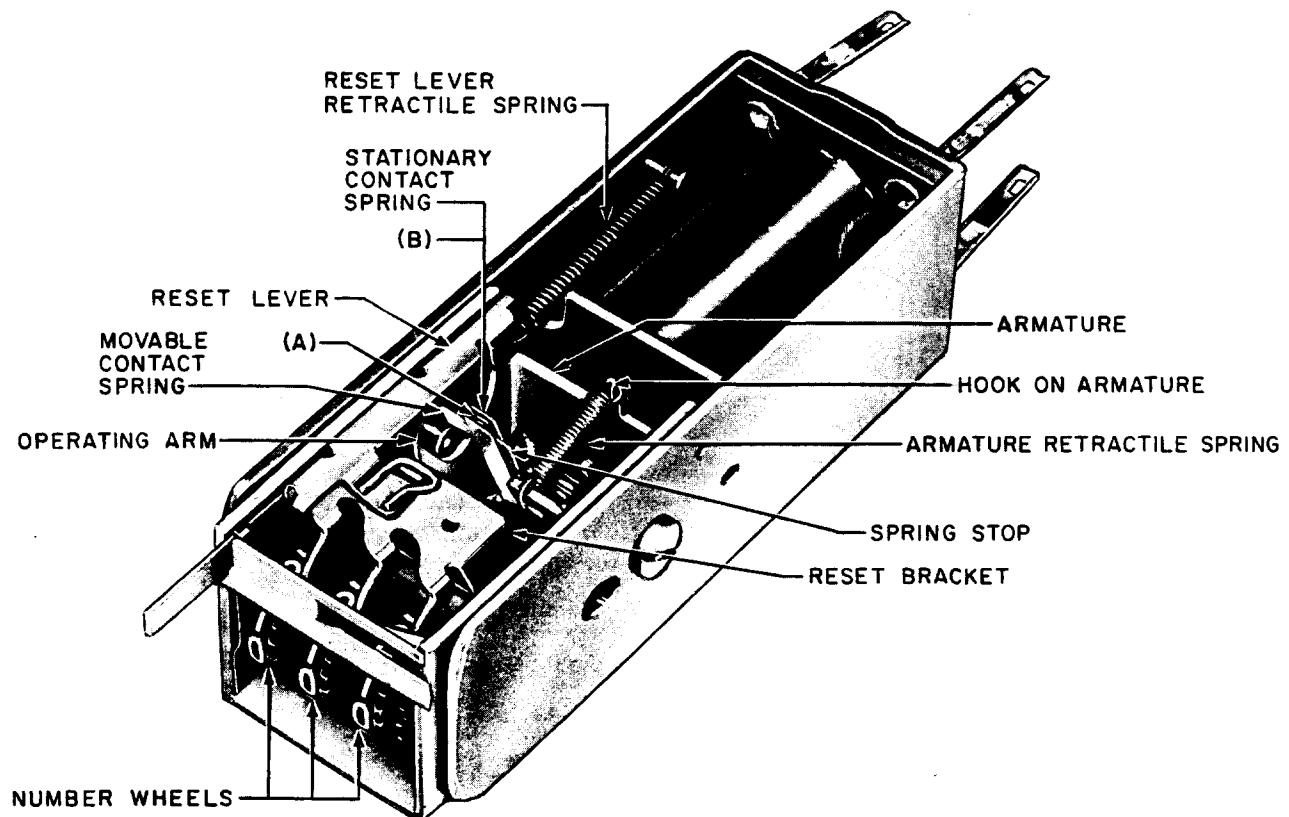

Fig. 5 - 15-Type Message Register Having Normally Open Contacts
2.10 Contact Separation: Fig. 5 (A) — With the armature in the unoperated position, the contact separation of the normally open contacts shall be
***2.12 Contact Spring Tension:** Fig. 5 (B) —